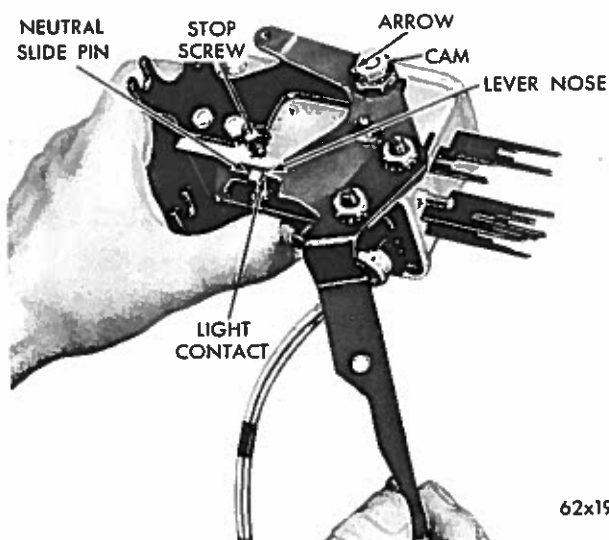

Fig. 9—Adjusting Lever Nose Contact at Neutral Slide Pin
- (1) Remove the overcenter spring and back off the lever stop screw (Fig. 9). Make sure no binding exists in the neutral slide, neutral slide pin and